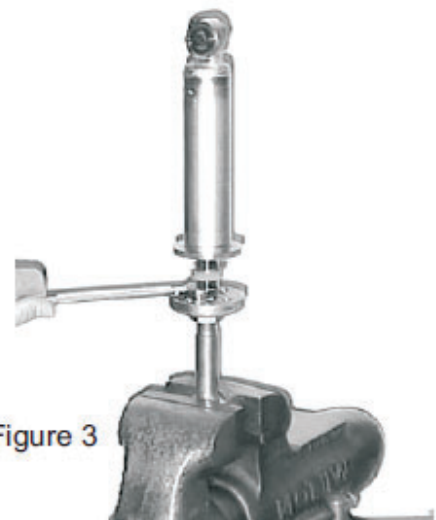

Figure 3
- Clamp the damper in a vise with soft jaws across the flat sides of the long eye mount (see Figure 3). Loosen the spring plate lock nut with a wrench and spin it a few turns for clearance (see figure 3). Loosen the spring plate a few turns in the same direction. Unscrew the damper shaft from the long eye mount with a wrench. The long eye mount is assembled with thread-locking compound (LocTite®) so it may need to be heated with a heat gun before removing.